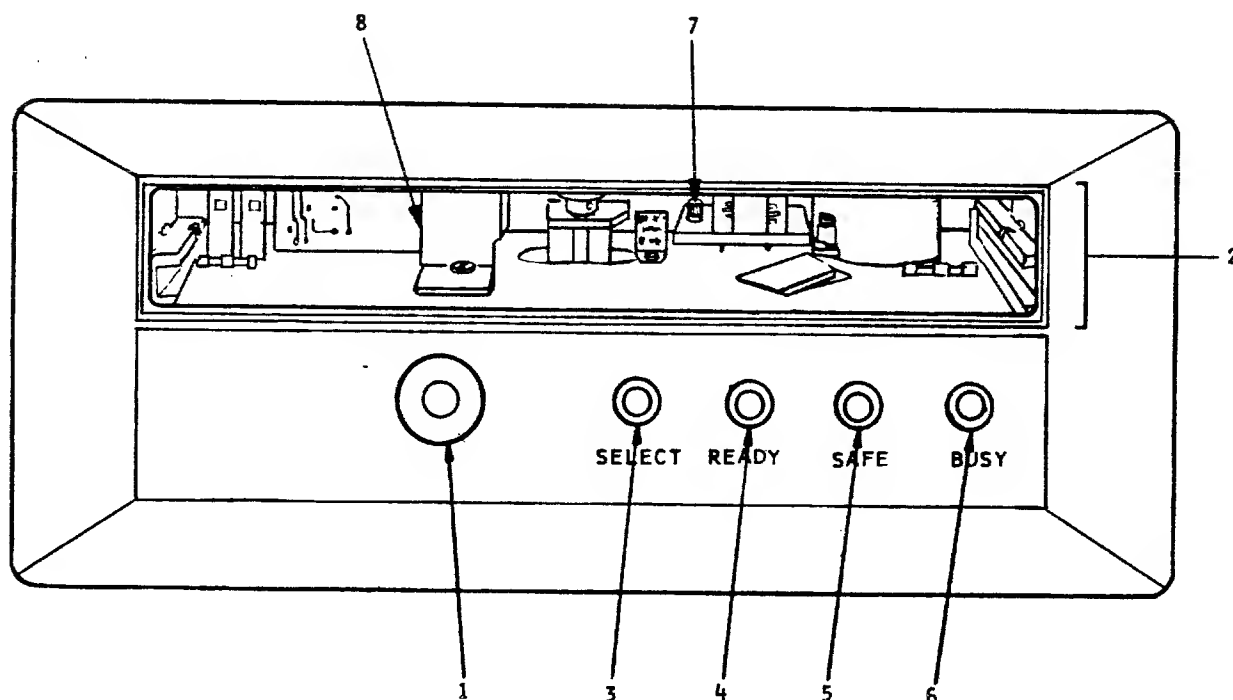

Figure 4-1. Controls and Indicators
The controls and indicators of the tape drive are described in table 4-1 and illustrated in figure 4-1.
a. Insert tape cartridge into mounting slot of tape drive (2, fig. 4-1), with metal plate toward UNLOAD button and status indicators.